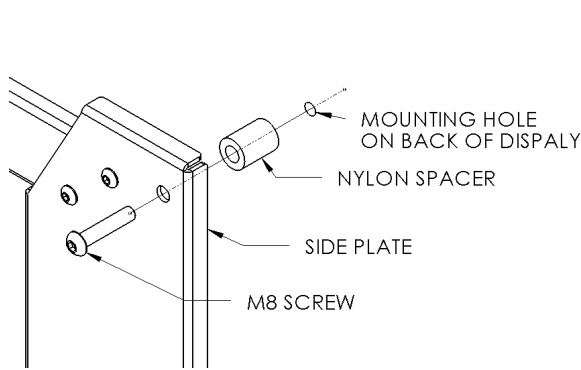
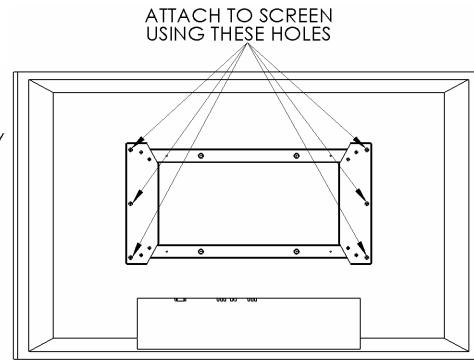

Figure 5
Figure 6
- Place Nylon spacers over mounting holes on back of screen. Attach mounting brackets to display using M8 screws (see Figures 5 & Figure 6).